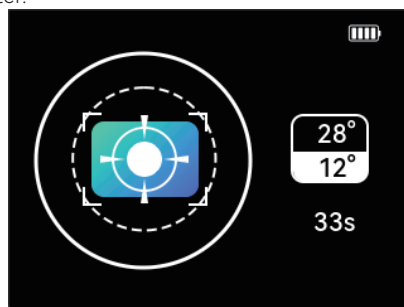

Figure 20
6. Move the generator closer to the sensor with the magnet. Observe the screen and adjust the X-ray output port to align with the sensor center. When the screen appears as shown in Figure 20 this indicates that the sensor center is aligned with the X-ray port center.